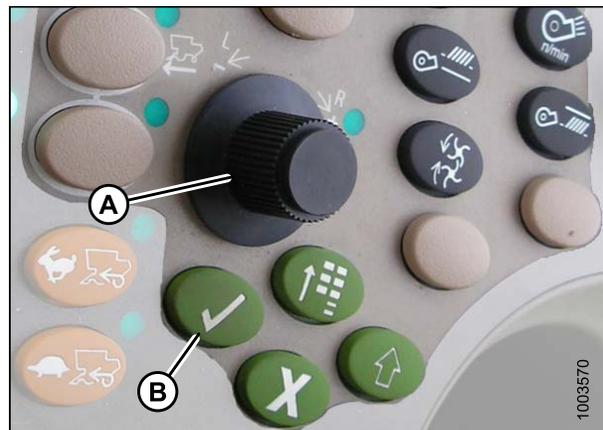

Figure 4.63: John Deere Combine Control Console
4. Select HEADER in box (A) by scrolling down to the box using the scroll knob, and then pressing the check mark button (knob and button are shown in Figure 4.63: John Deere Combine Control Console, page 120).
5. Scroll down to the lower right icon that resembles an arrow in a diamond (B) and press the check mark button to select it.